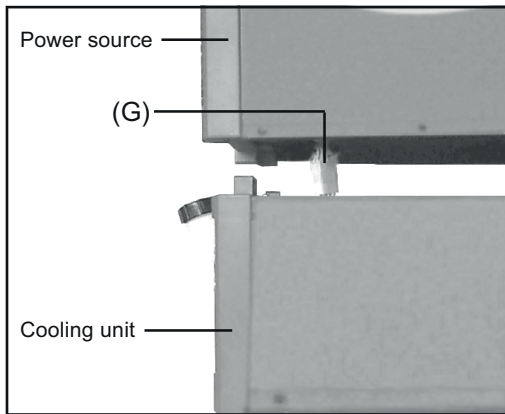

Fig.8 Unplugging connection between power source and cooling unit
- 10 Carefully lift power source and unplug connection (G) between it and the cooling unit (Fig.8)
- 11 Lift power source off cooling unit (Fig.8)